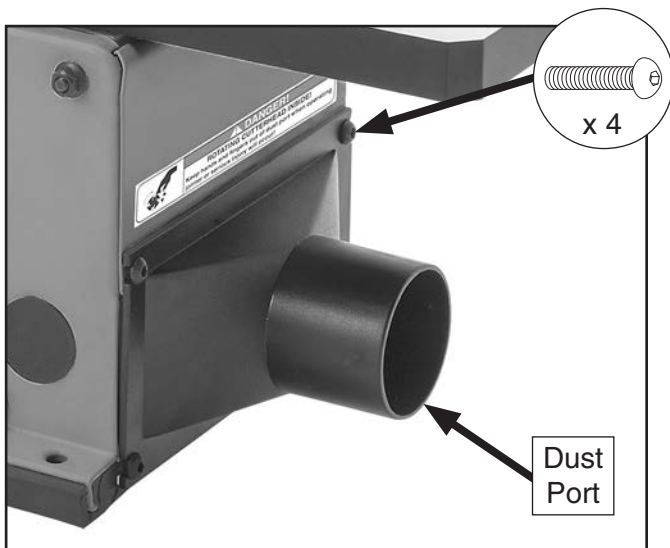

Figure 16. Dust port installed on jointer.
1. Remove (4) button head cap screws from dust chute on left side of jointer base.
2. Place dust port over dust chute and install (4) button head cap screws removed in **Step 1** to secure dust port in place (see **Figure 16**).